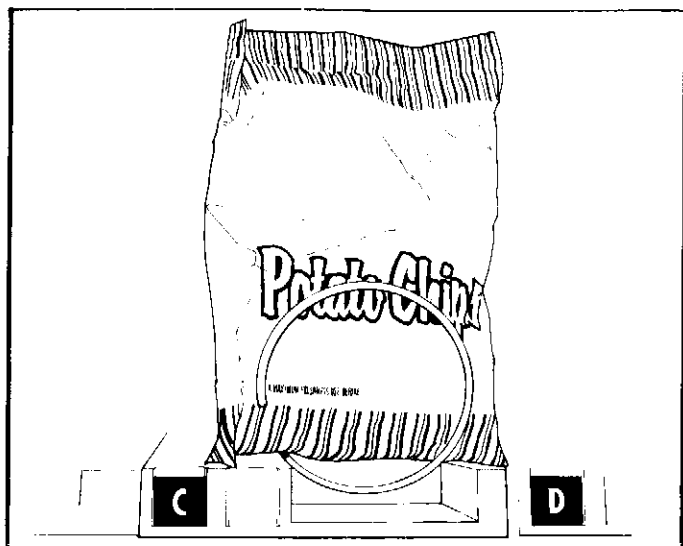
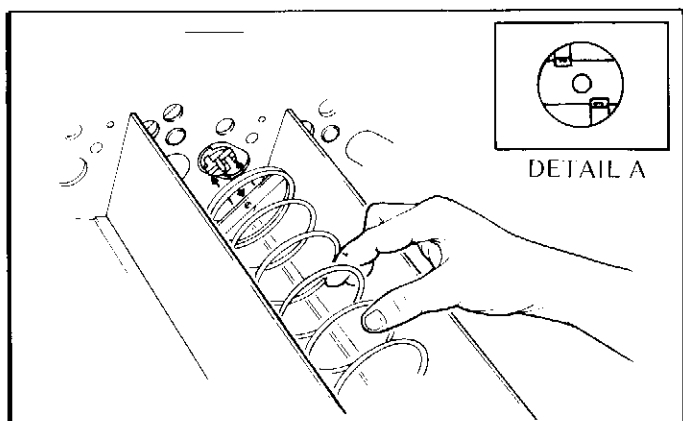
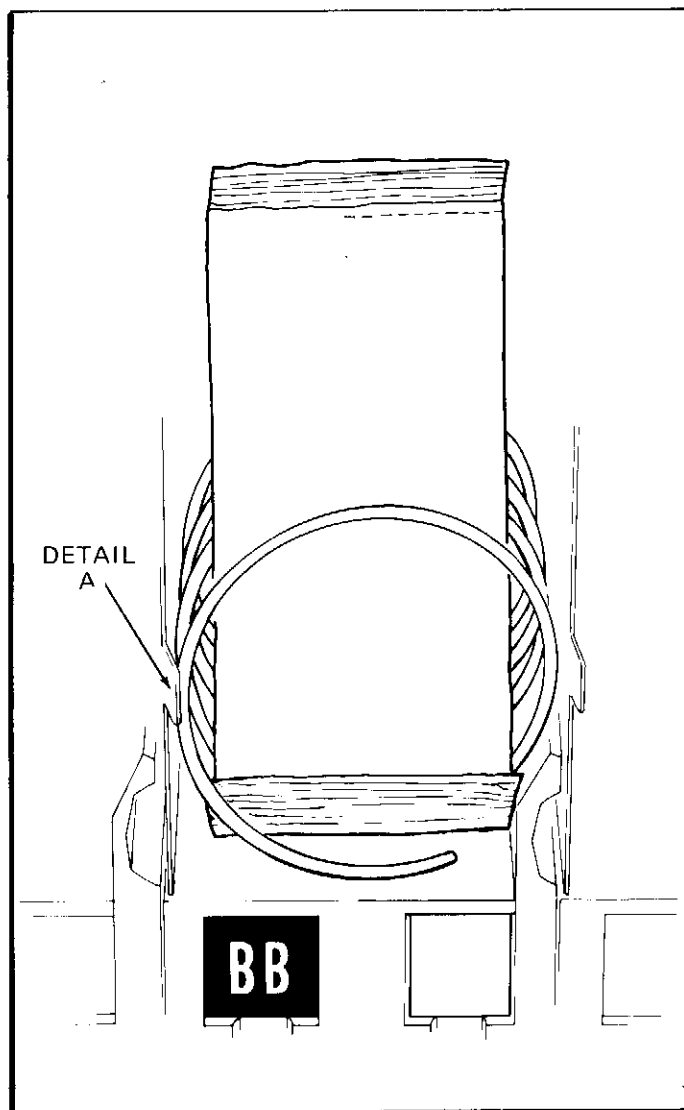

Figure 2. PLACEMENT OF PRODUCT ON MAIN PRODUCT SNACK SHELVES AND FRONT END POSITION OF SPIRAL.
Figure 3. REMOVING AND INSTALLING SPIRAL.
Figure 5. PLACEMENT OF PRODUCT ON MAIN PRODUCT CANDY SHELVES AND FRONT END POSITION OF SPIRAL.
IMPORTANT: Product must not be forced into the spiral spaces but should fit freely. If the product is too tight, use a larger pitch spiral. The bottom of the product should be placed on top of the spiral wire that rests on the shelf surface (see Figure 2). The width of the product must be greater than the diameter of the snack spiral. If it is smaller, the product may fall through when it is in the front, ready to vend position.
4. **REMOVAL OF SPIRAL:** To remove a spiral, grasp the spiral near the rear of the shelf and pull forward. To install a spiral, align the hole in the cross strap, at the rear of spiral, with the motor shaft. (See Figure 3) Be sure the front end of the spiral is positioned properly (with the front end of spiral pointing downward on the left side) (see Figure 2); align strap between retainer tabs on spiral retainer (see Detail A, Figure 3) attached to motor shaft, push spiral to rear until both tabs snap over strap (see Figure 3). Give a light forward pull on front of spiral to check if it is locked in place.
5. **PRODUCT SPACERS-4 SELECTION SHELF:** A product spacer (page 18, item 9) is used to reduce the width of the product area and should be used on any 4-selection snack shelf where the product width is $4\frac{1}{2}$ " or less.
6. **LOADING MAIN PRODUCT CANDY SHELVES:** The 8-selection (candy type) shelves are loaded similar to the 4-selection shelves except that the bottom of the product sits on the shelf in *front* of the spiral wire (see Figure 5) that rests on the shelf. These products must also fit properly in the spiral space; *do not* force product into spiral. These spirals are removed and installed the same as the large spiral (see Figure 3), except that the front end position is different (approximately 5 o'clock) (see Figure 5) and the front left side of the spiral must be behind the small tab located on the left side of the product space side wall (see Figure 5, Detail A).
14. **LOADING GUM-AND-MINT:** The gum and mint spiral is loaded the same way as the candy spiral with the product placed on the adapter in front of the spiral wire. (See Figure 5.)